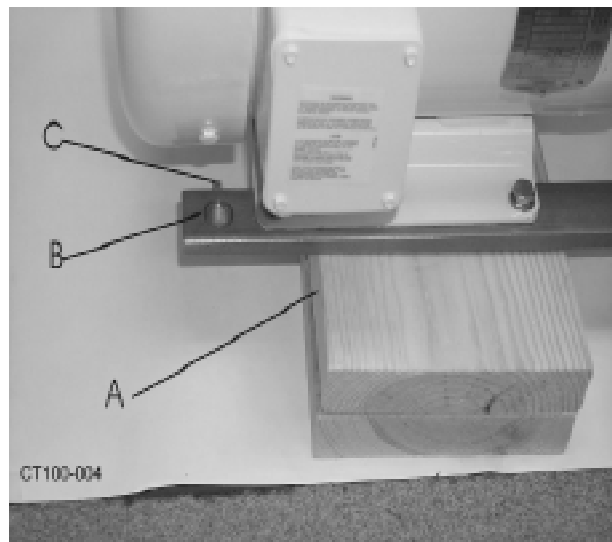

Figure 4. Blocking and Sleeve
4. Place the pump on blocking that is approximately 3 inches high (item A, Figure 4).
5. Install the two sleeves (item B, Figure 4) in the leg brackets on the pump and lock in place using the set screw (item C, Figure 4).